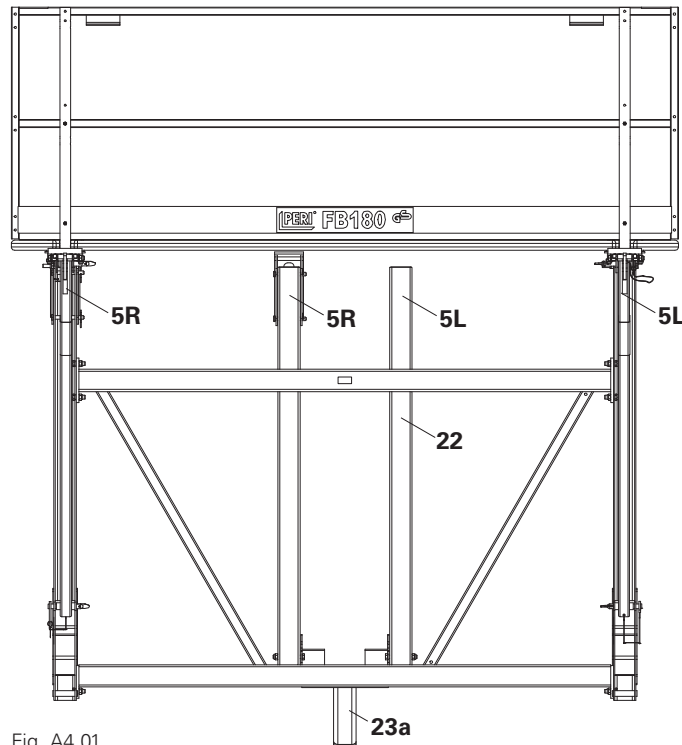

Fig. A4.01
1. Dismantle the horizontal member (9) (see Overview of Main Platform).
2. Corner Platform Frame FEB (22) is connected using the M16 x 45 bolts provided on the frame. (Fig. A4.01)
3. Fix Mounting Head (5) according to the application to the Corner Platform Frame FEB (22). (Fig. A4.01)